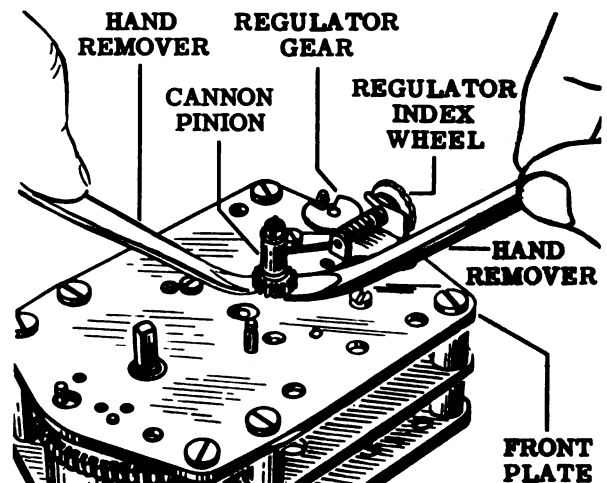

Figure 37
1. Using the hand removers with felt pads (Tool No. 2A), as shown in Fig. 37, pry off the cannon pinion.